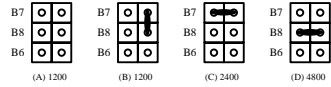

Figure 15: Selection of the ISA72 rate
On the card three pin strips are present for the selection of the communication rate between the ISA72 and the supervisory computer. How to select the communication rate is indicated in Fig. 15. Before modifying the jumper manufacturer position (B) and consequently the communication rate, make sure that on the same line are not present other peripherals with different rates (Macroplus and pCO) and that the supervisor is correctly selected. (See Fig. 21 Local Setup window).